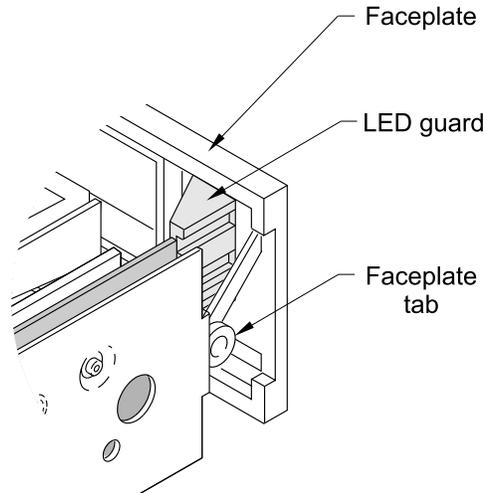

Figure 14 Positioning the faceplate
2. Position the faceplate tabs inside the side panels, as shown, and press the faceplate onto the tape drive (see Figure 14).